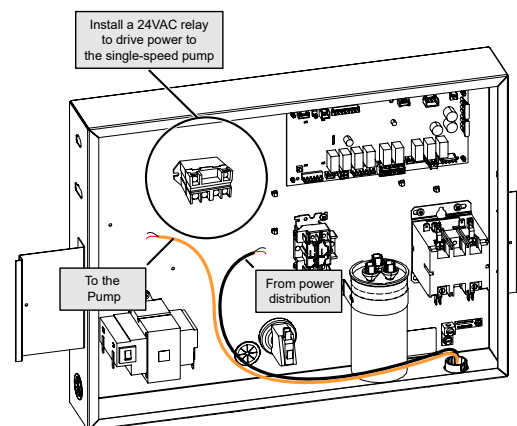

Figure 139. Install Relay in Control Box
3. Install a field-supplied relay inside the control box. See Figure 139. The relay shall have a coil for 24VAC, and contact terminals rated to the current specifications of the pump. The next components are recommended for this application